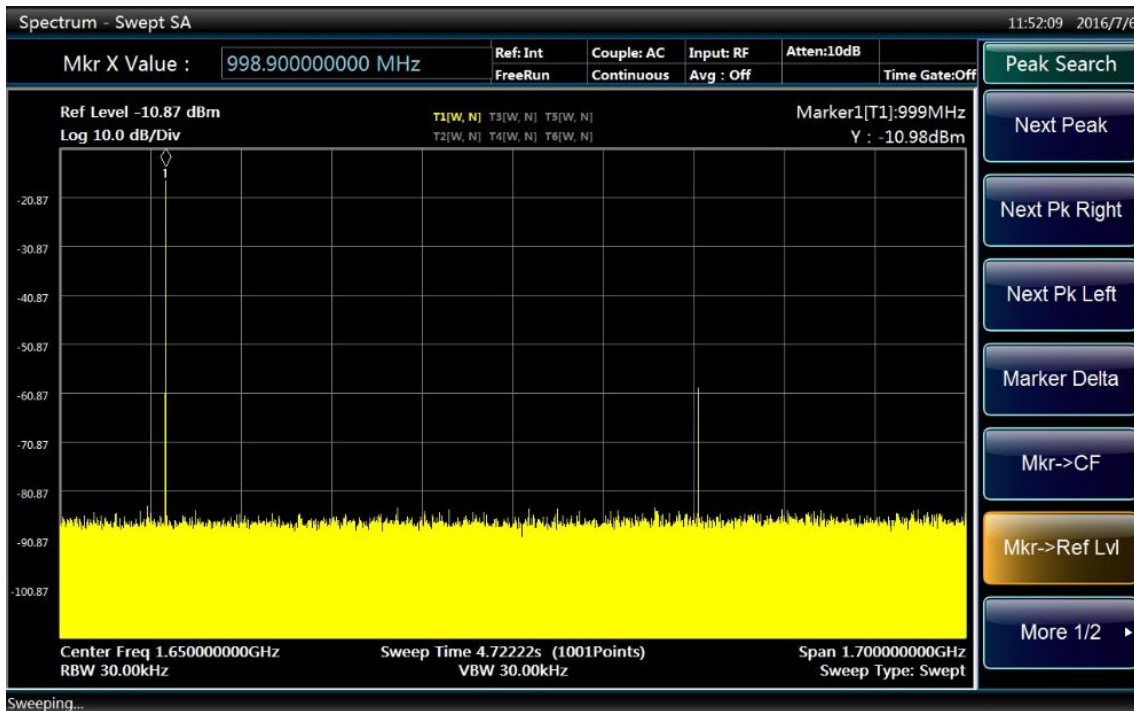

Fig. 4.18 Display interface of signal peak at reference level
- Press [Peak Search] and [Marker →Reference Level] to obtain an interface as shown in Fig. 4.18.